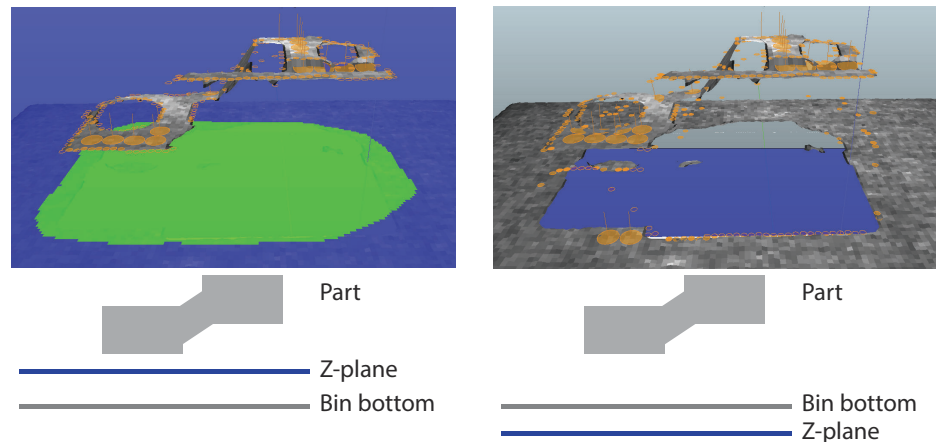

Figure 56: Left: Good teach. Right: Surface and edge indicators on the underlying surface.
10. If needed, readjust the height of the Z-plane. A too low Z-plane may result in surface and edge indicators on the bin bottom, as shown in figure 56.